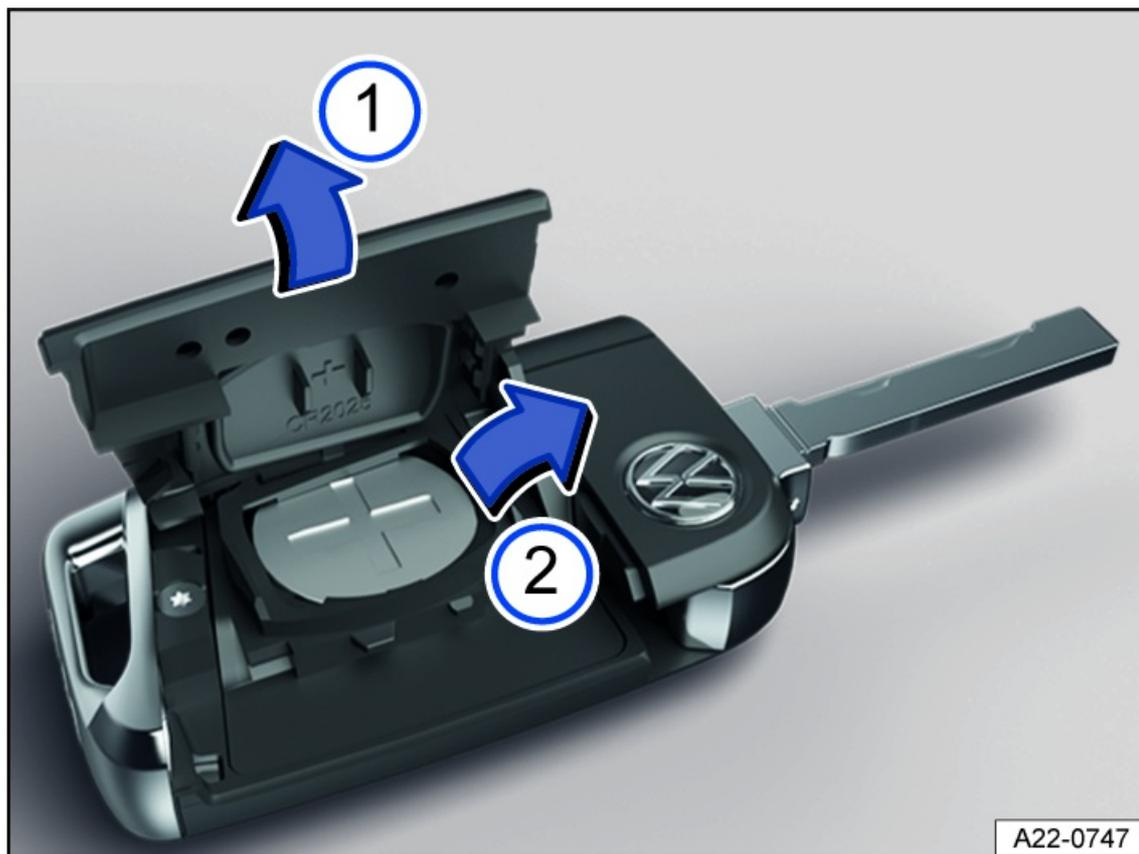

Fig. 47 Vehicle key: Replacing the button cell battery (general example).
① Cover
② Button cell battery
2. Lever off the cover *fig. 47*.
3. Lift the button cell battery out of the battery compartment *fig. 47*, ⇒ ⚠.
5. Press the cover onto the housing *fig. 47*, ⇒ ⚠.